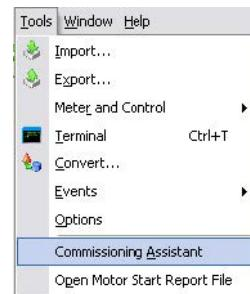

Figure 7.25 Launch Commissioning Assistant
Step 1. Launch **Commissioning Assistant** from QuickSet by selecting **Commissioning Assistant** under the **Tools** menu, as in *Figure 7.25*.